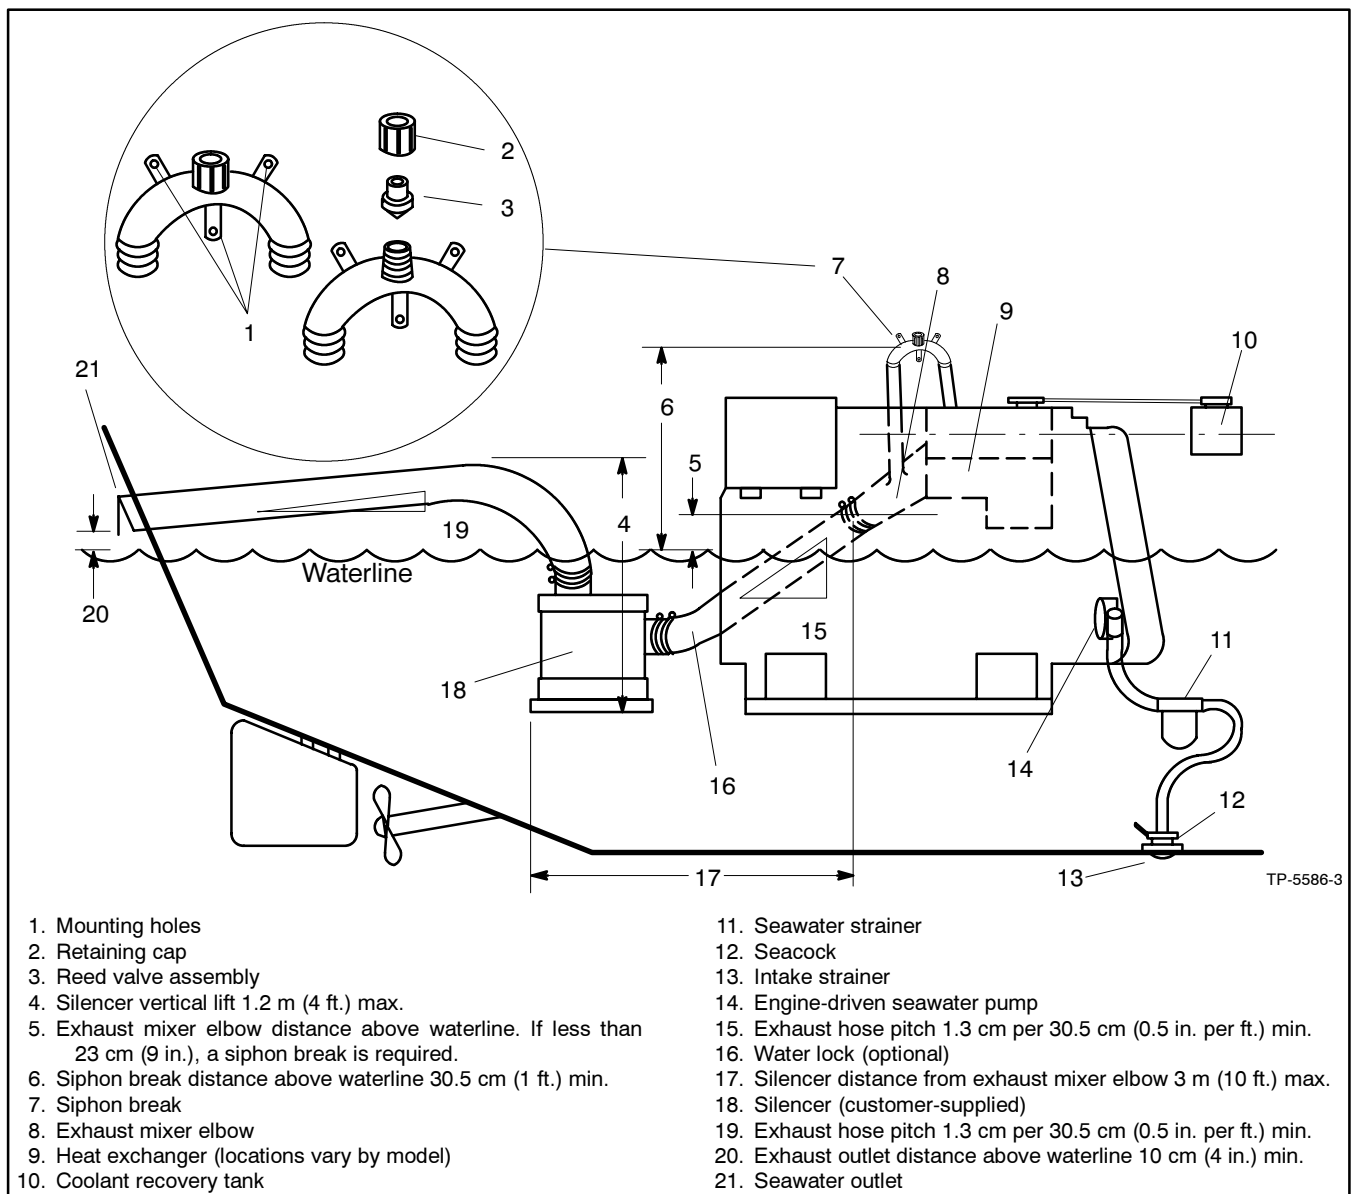

Figure 5-4 Siphon Break, Plastic "U" Type
A siphon break prevents seawater entry into the engine when the engine exhaust manifold outlet is less than 23 cm (9 in.) above waterline. Check the siphon break at the interval listed in the service schedule. Use the following procedure and Figure 5-4 to ensure correct functioning of the siphon break.
2. Remove the retaining cap and the reed valve for inspection. See Figure 5-4.